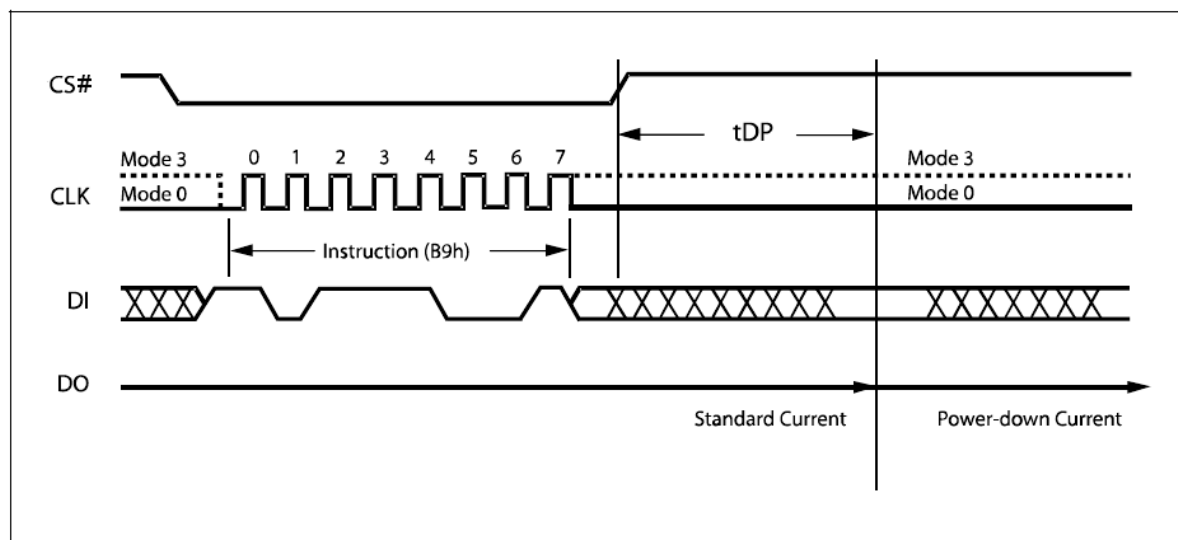

Figure 21. Deep Power-down Instruction Sequence Diagram
The instruction sequence is shown in Figure 21. Chip Select (CS#) must be driven High after the eighth bit of the instruction code has been latched in, otherwise the Deep Power-down (DP) instruction is not executed. As soon as Chip Select (CS#) is driven High, it requires a delay of t_{DP} before the supply current is reduced to I_{CC2} and the Deep Power-down mode is entered.